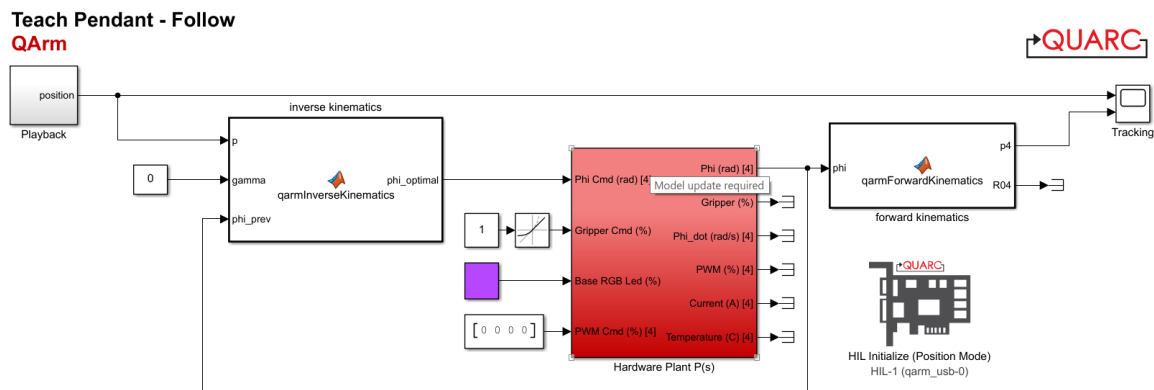

Figure 3: Simulink model *TeachPendant\_Follow.slx*
1. Open the Simulink model TeachPendant\\_Follow.slx (Figure 3). You will use this model to command the manipulator to follow the waypoints that were learned in the previous section.